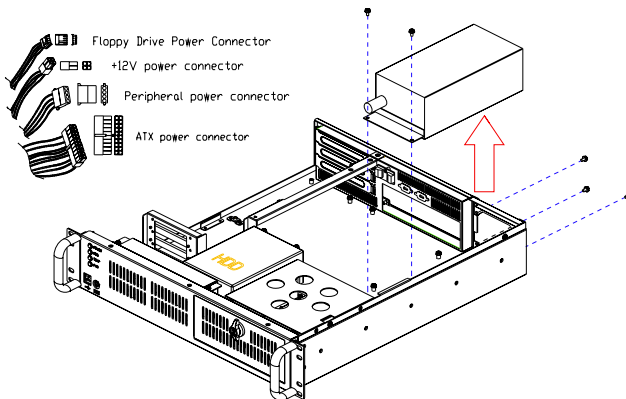

Figure 3.7: Replacing the power supply
4. Loosen the three screws on the rear plate and the two screws on the power supply bracket and gently remove it. (*see Figure 3.7*)